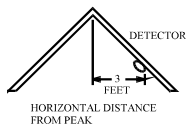

Figure 5: Recommended location to mount smoke detectors in rooms with sloped, gabled, or peaked ceiling
- ◆ If some of your rooms have sloped, peaked, or gabled ceilings, try to mount detectors 3 feet (0.9 meter) measured horizontally from the highest point of the ceiling as shown in Figure 5.